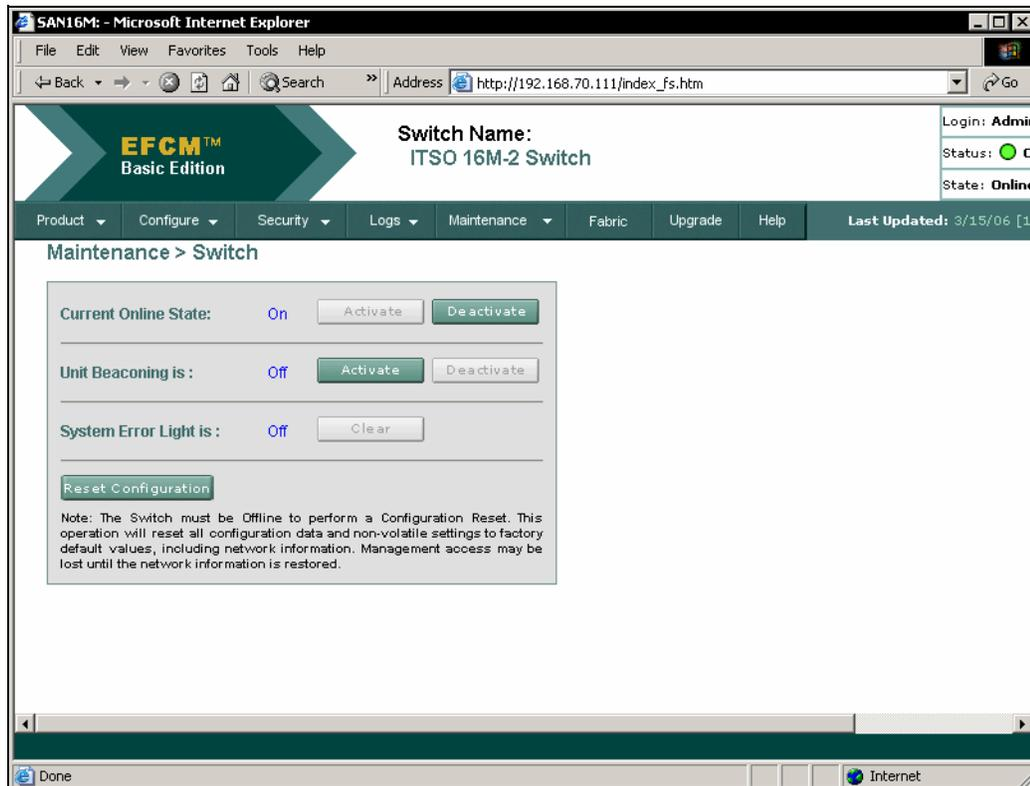

Figure 32 EFCM Basic - maintenance
1. Before parameters can be configured the switch must be taken offline. In EFCM Basic click **Maintenance** and select **Switch**. This displays the Switch view, shown in Figure 32.